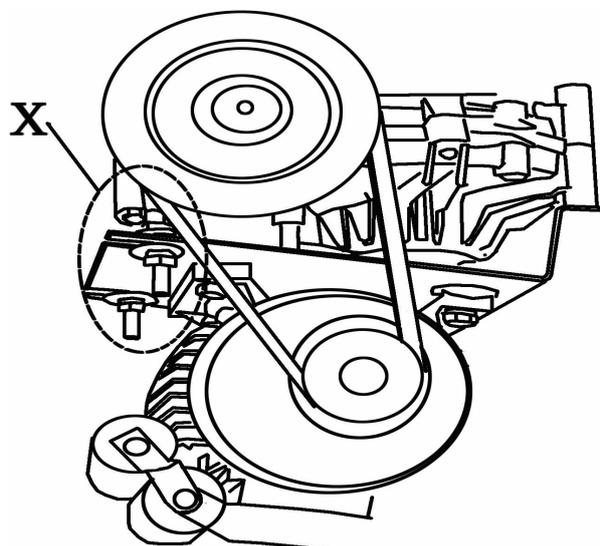

Fig.16
- Tighten the drive belt by means of the special adjusting screw X on the motor support (fig.16).